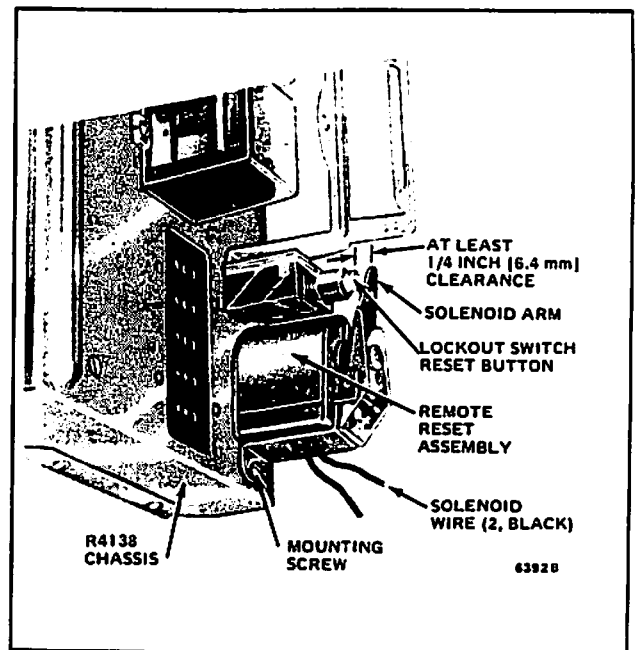

FIG. 19—REMOTE RESET ASSEMBLY INSTALLED.
5. Insert the mounting screw and tighten it securely (Fig. 19).